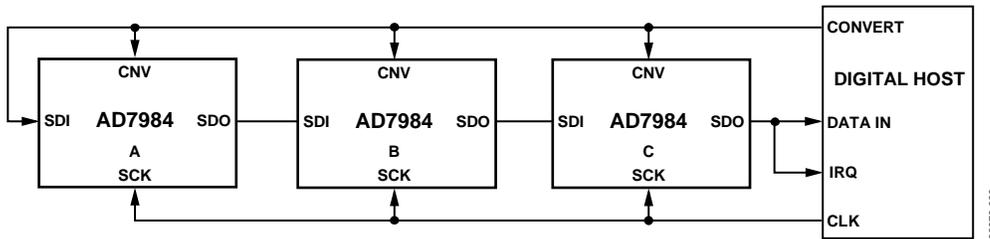
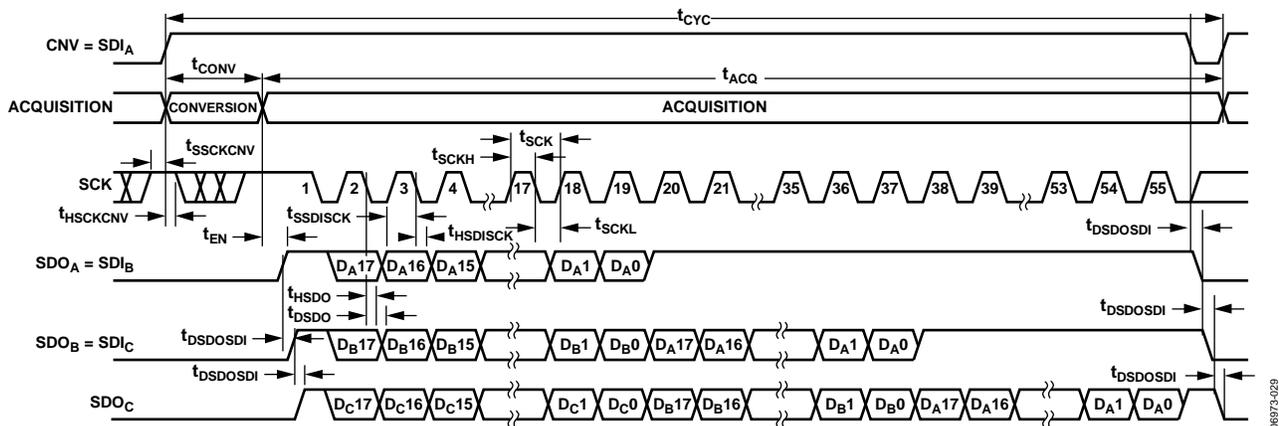

Figure 38. Chain Mode with Busy Indicator Connection Diagram
Figure 39. Chain Mode with Busy Indicator Serial Interface Timing
- In chain mode if SCK is high during the CNV rising edge (see Figure 39).
A connection diagram example using three AD7984s is shown in Figure 38, and the corresponding timing is given in Figure 39.
completed their conversions, the SDO pin of the ADC closest to the digital host (see the AD7984 ADC labeled C in Figure 38) is driven high. This transition on SDO can be used as a busy indicator to trigger the data readback controlled by the digital host. The AD7984 then enters the acquisition phase and goes into standby mode. The data bits stored in the internal shift register are clocked out, MSB first, by subsequent SCK falling edges. For each ADC, SDI feeds the input of the internal shift register and is clocked by the SCK falling edge. Each ADC in the chain outputs its data MSB first, and  $18 \times N + 1$  clocks are required to read back the N ADCs. Although the rising edge can be used to capture the data, a digital host using the SCK falling edge allows a faster reading rate and, consequently, more AD7984s in the chain, provided the digital host has an acceptable hold time.